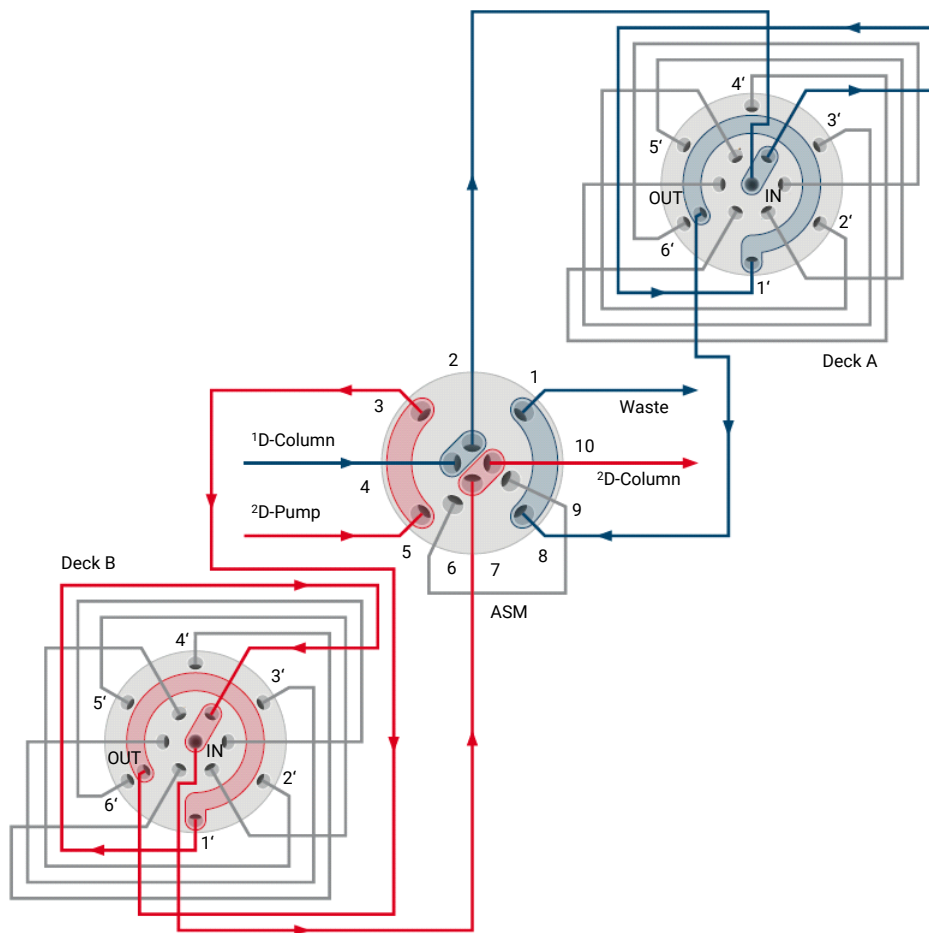

Figure 32: Schematic representation of the ASM 2D-LC Valve (G4243A) in countercurrent flow.
- Countercurrent for the ASM 2D-LC Valve (G4243A) or Standard 2D-LC Valve (G4236A) with a Multiple Heart-Cutting Configuration, see Figure 32 on page 69.
- ⇒ In the instruction table, the connections to valve port are mentioned in brackets, for example ASM Valve (2) = ASM Valve, Port 2.